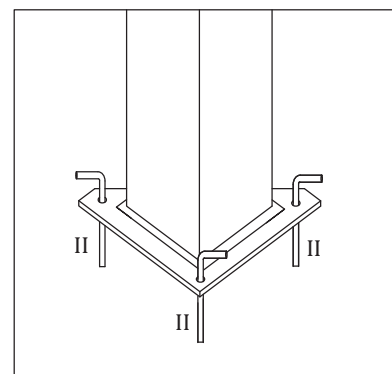

Fig.24
3-e. Adjust position of gazebo and anchor posts to the ground by inserting Stakes (II) into each hole in each Base Plate. See Fig.24